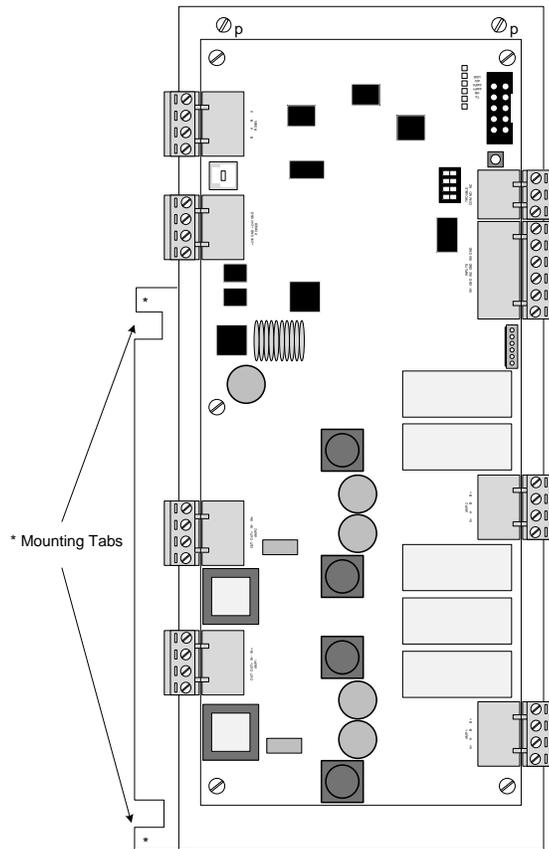

Figure 24 - NX-AMP-80 Audio Amplifier Module Mounting
To install the NX-AMP-80 audio amplifier module slide the NX-AMP-80 mounting plate tabs under the two (2) tabs located on the lower left side of the back box below the NX-FACP base card. Secure the top end of the NX-AMP-80 mounting plate to the back box standoffs with the provided two (2) screws (see figures 24).
Remove all field wiring terminal blocks from the audio amplifier module. Remove the two (2) screws [p] from the audio amplifier assembly's mounting plate. Carefully slide the audio amplifier assembly from under the back box mounting tabs [\*] located on the left side of the audio amplifier mounting plate (see figure 24).